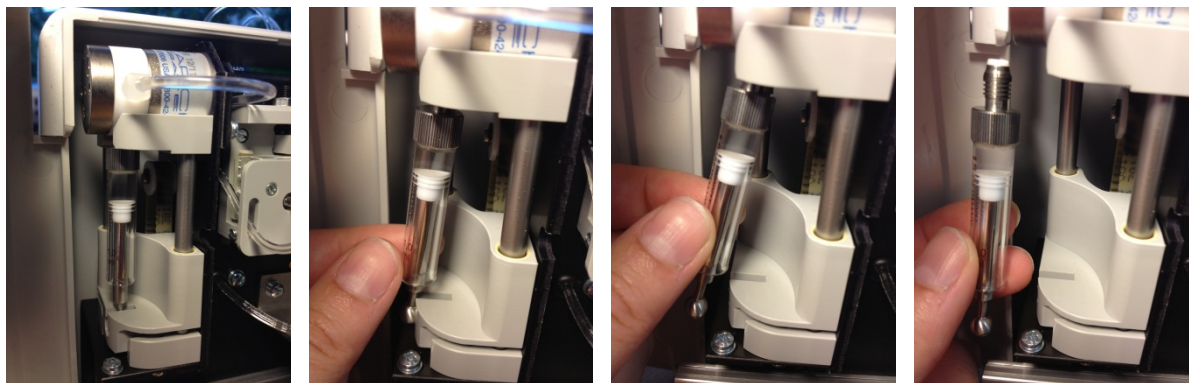

Figure 19-22: Removal of the piston/cylinder system
- Take the piston/cylinder system out through the flaps and pull out (see figures 19-22)